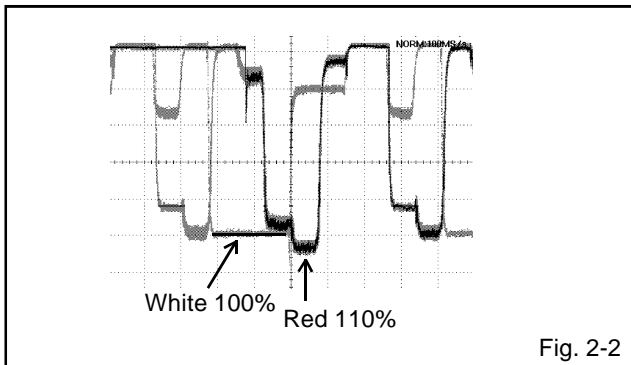

Fig. 2-2
7. Press the VOL. UP/DOWN button on the remote control until the red color level is adjusted to 110% of the white level. **(Refer to Fig. 2-2)**